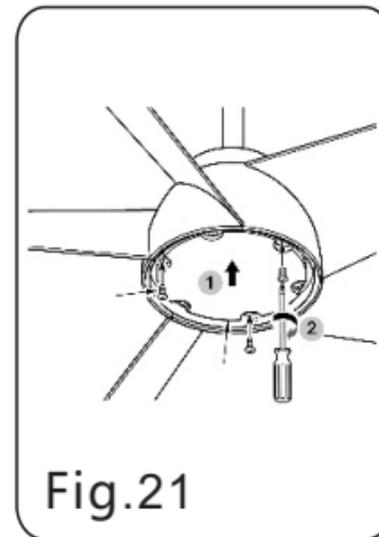

Fig.21
Step 3. Screw back the 3 previously removed screws and tighten the light kit (Fig.21)